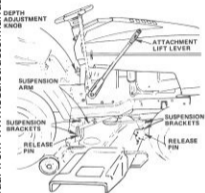

FIGURE 36
3. Slide Front Suspension Brackets into Mower Brackets. Retain with Release Pins (Fig. 36). Turn Depth Adjustment Knob counterclockwise (⤴) until it stops, Push Attachment Lift Lever forward to lower mower to ground.
6. Turn Depth Adjustment Knob (Fig. 36) clockwise (⤵) to remove slack from Mower Suspension.